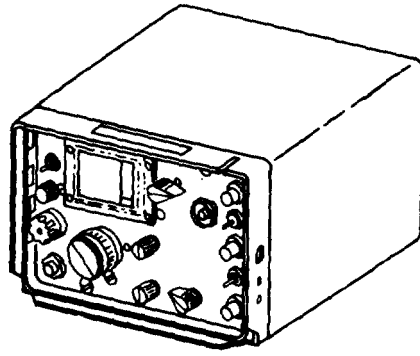

Figure 1-3. Receiver R-1218/UR
a. Receiver R-1218/UR. Refer to figure 1-3. Receiver R-1218/UR is a solid-state superheterodyne hf radio receiver with a frequency range of 0.5 to 20.5 MHz and is capable of operating in amplitude modulation (AM), lower sideband (LSB), or upper sideband (USB) modes. All operating controls, switches, and indicators are located on the front panel. An internal battery provides operating voltage. Refer to TM 11-5820-641-14 for additional information.